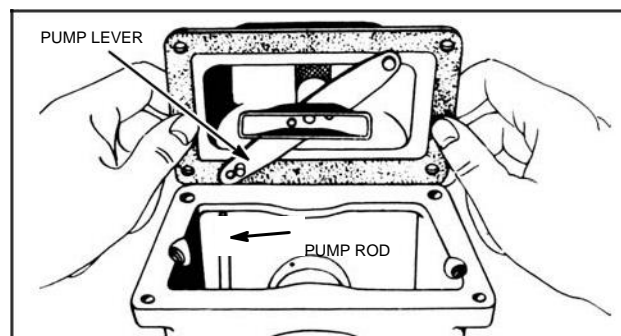
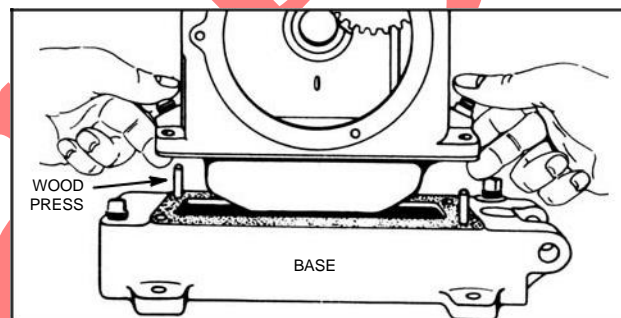

Fig. 564 – REASSEMBLING MODEL FH OIL PUMP
Fig. 565 – MOUNTING CRANKCASE MODEL FH
Secure two (2) wooden pegs which fit securely in the base mounting holes but are small enough to pass through those of the oil pan and crankcase. Invert cylinder. Place pump rod into hole in cam follower, Fig. 564. Assemble gaskets to oil pan and base and place oil pan on crankcase with pump rod in the small hole in pump lever. With wooden pegs in engine base, turn crankcase to upright position, holding the oil pan in place. Lower the crankcase assembly on the base with the pegs guiding it into place. Remove pegs and assemble screws, Fig. 565.